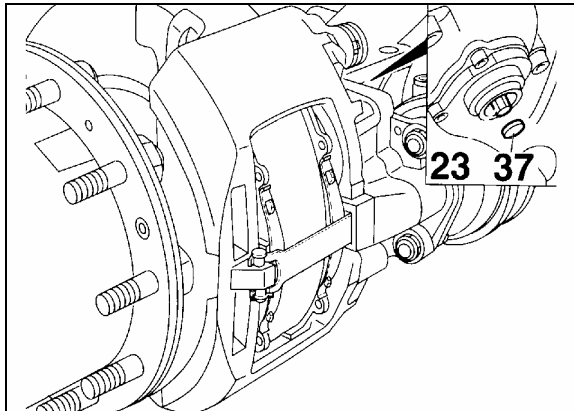

FIGURE 27: ADJUSTER PINION 12120
- a) Remove cap (37, Fig. 27).
- b) Using a box wrench (8 mm), turn the adjuster pinion (23, Fig. 27) counterclockwise about 2-3 clicks to increase running clearance. By operating the braking system about 5-10 times (30 PSI or 2 bar), the wrench should turn clockwise in small increments if the adjuster is functioning correctly (Figs. 27 and 28).